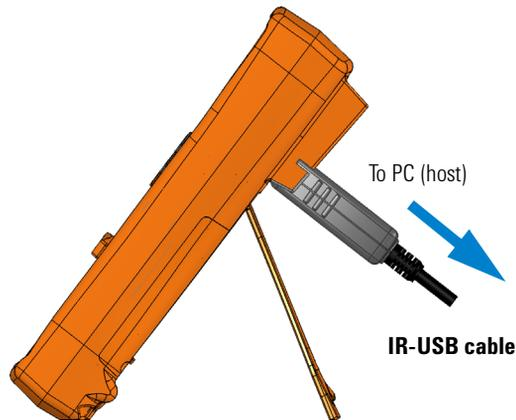

Figure 4 Cable connection for remote communication
- 4 Connect the multimeter to your PC via the U1173A IR-USB cable (Figure 4) and turn on the multimeter.